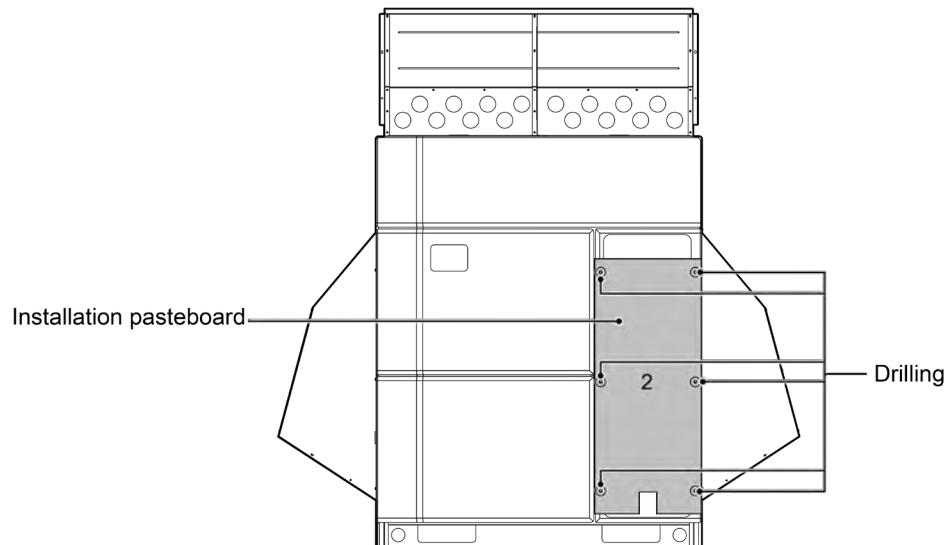

Fig. 3.27
(1) Drill the locating screw hole on the front panel. Fix the installation pasteboard 2 to the side plate of the unit, as is shown in Fig 3.27, then drill 6 holes with the drill  $\Phi 3.8$ , please pay attention to the drilling depth to avoid damaging the components nearby, otherwise, the unit might lose efficacy.